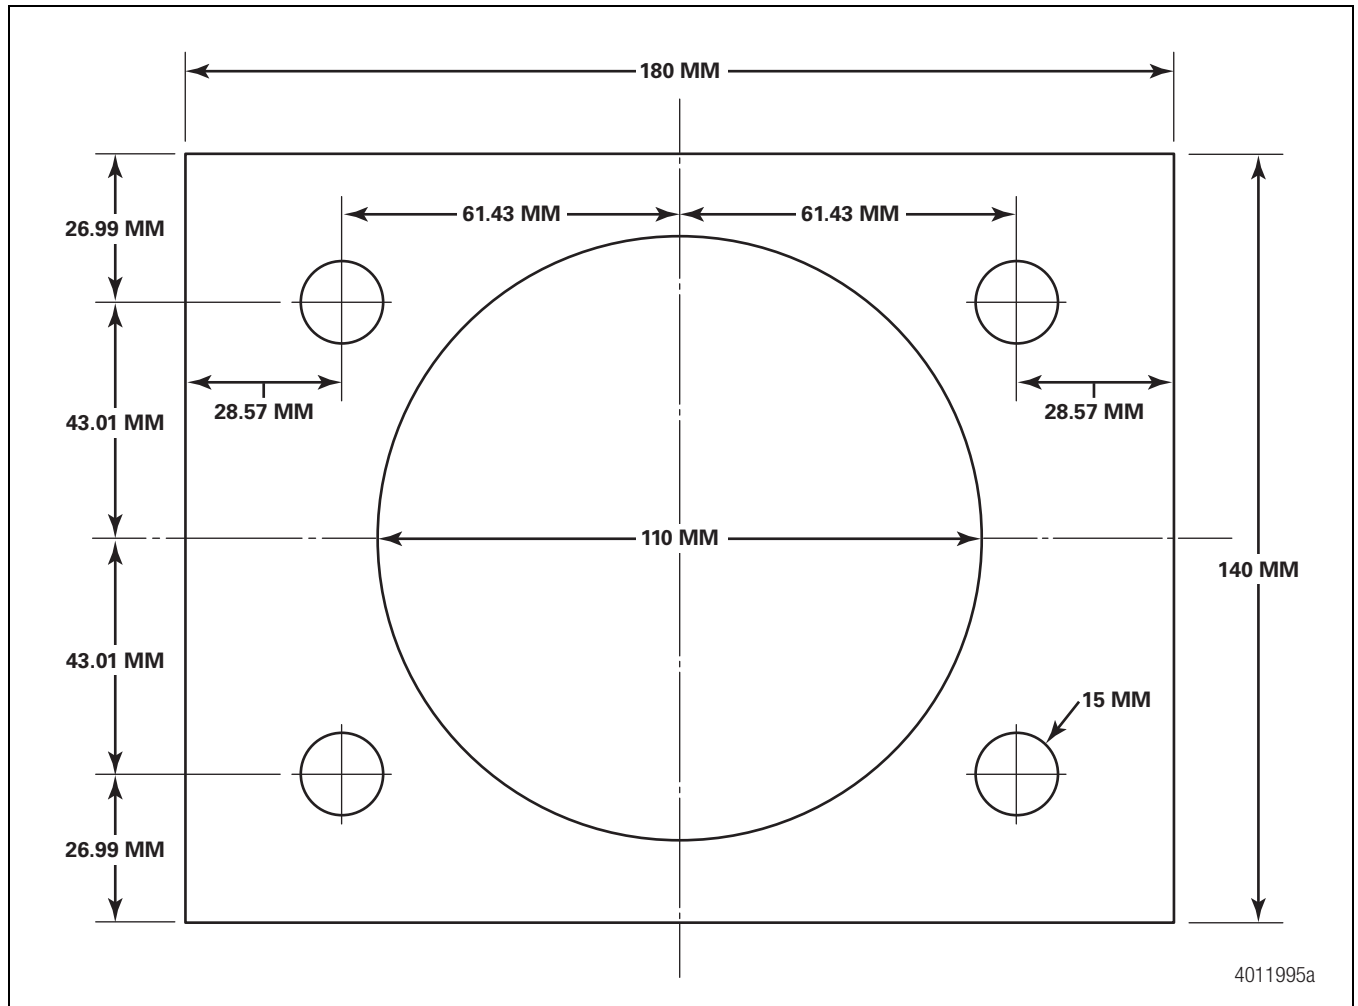

Figure 10.3
2. Cut and drill the plate using the dimensions in Figure 10.3.